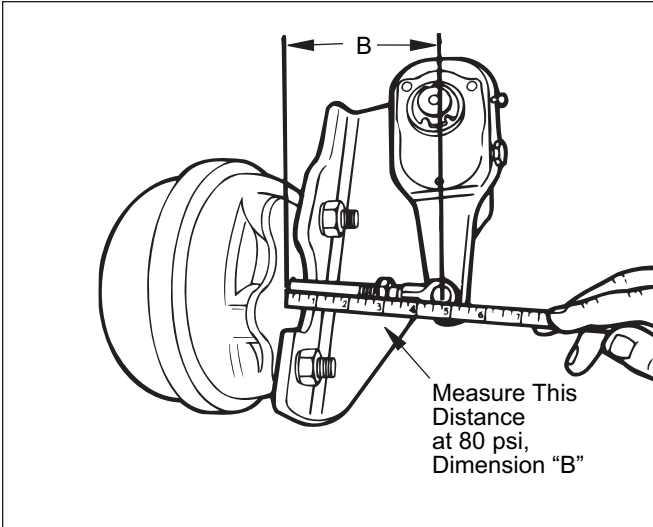

Figure 9. Measurement, 80 psi Applied
3. Apply and hold an 80 psi brake application, and again measure from face of air chamber to clevis pin centerline. Refer to Figure 9. Record distance as dimension "B".